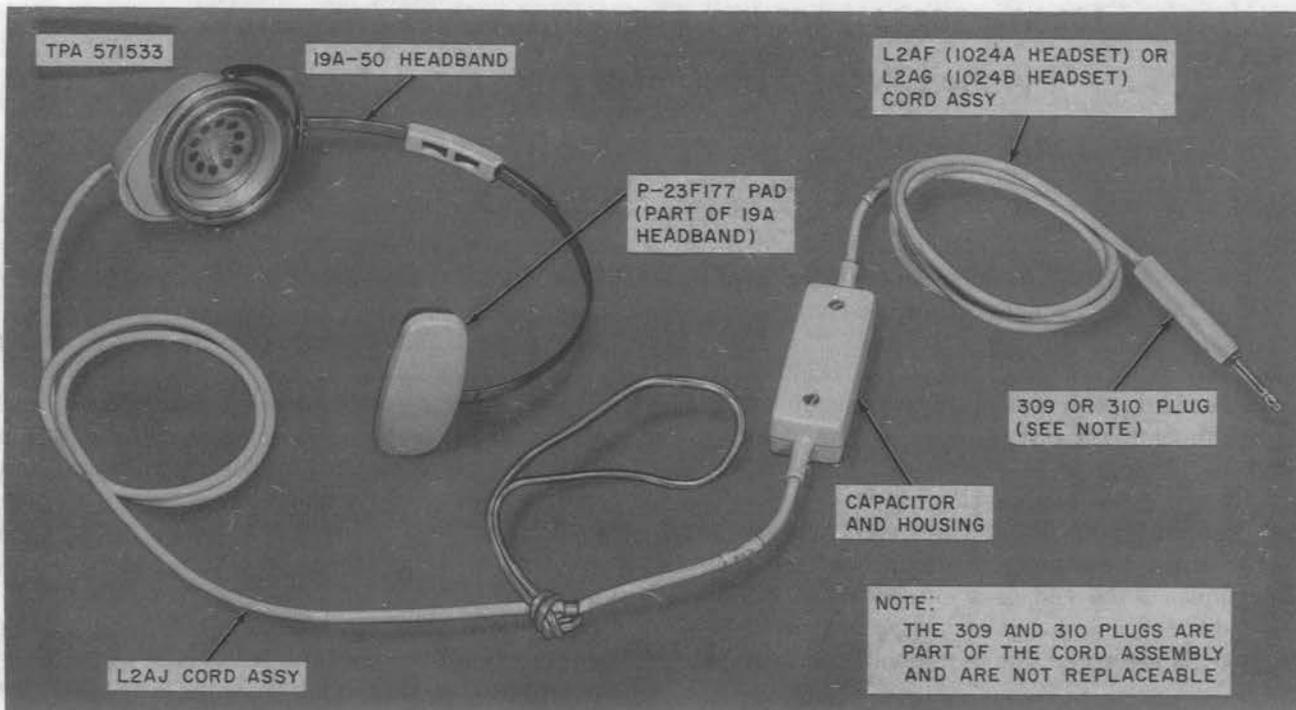

Fig. 2—1024A- and 1024B-Type Headsets
1.04 The 1024A and 1024B headsets (Fig. 2) are designed to permit a peg count analyst to